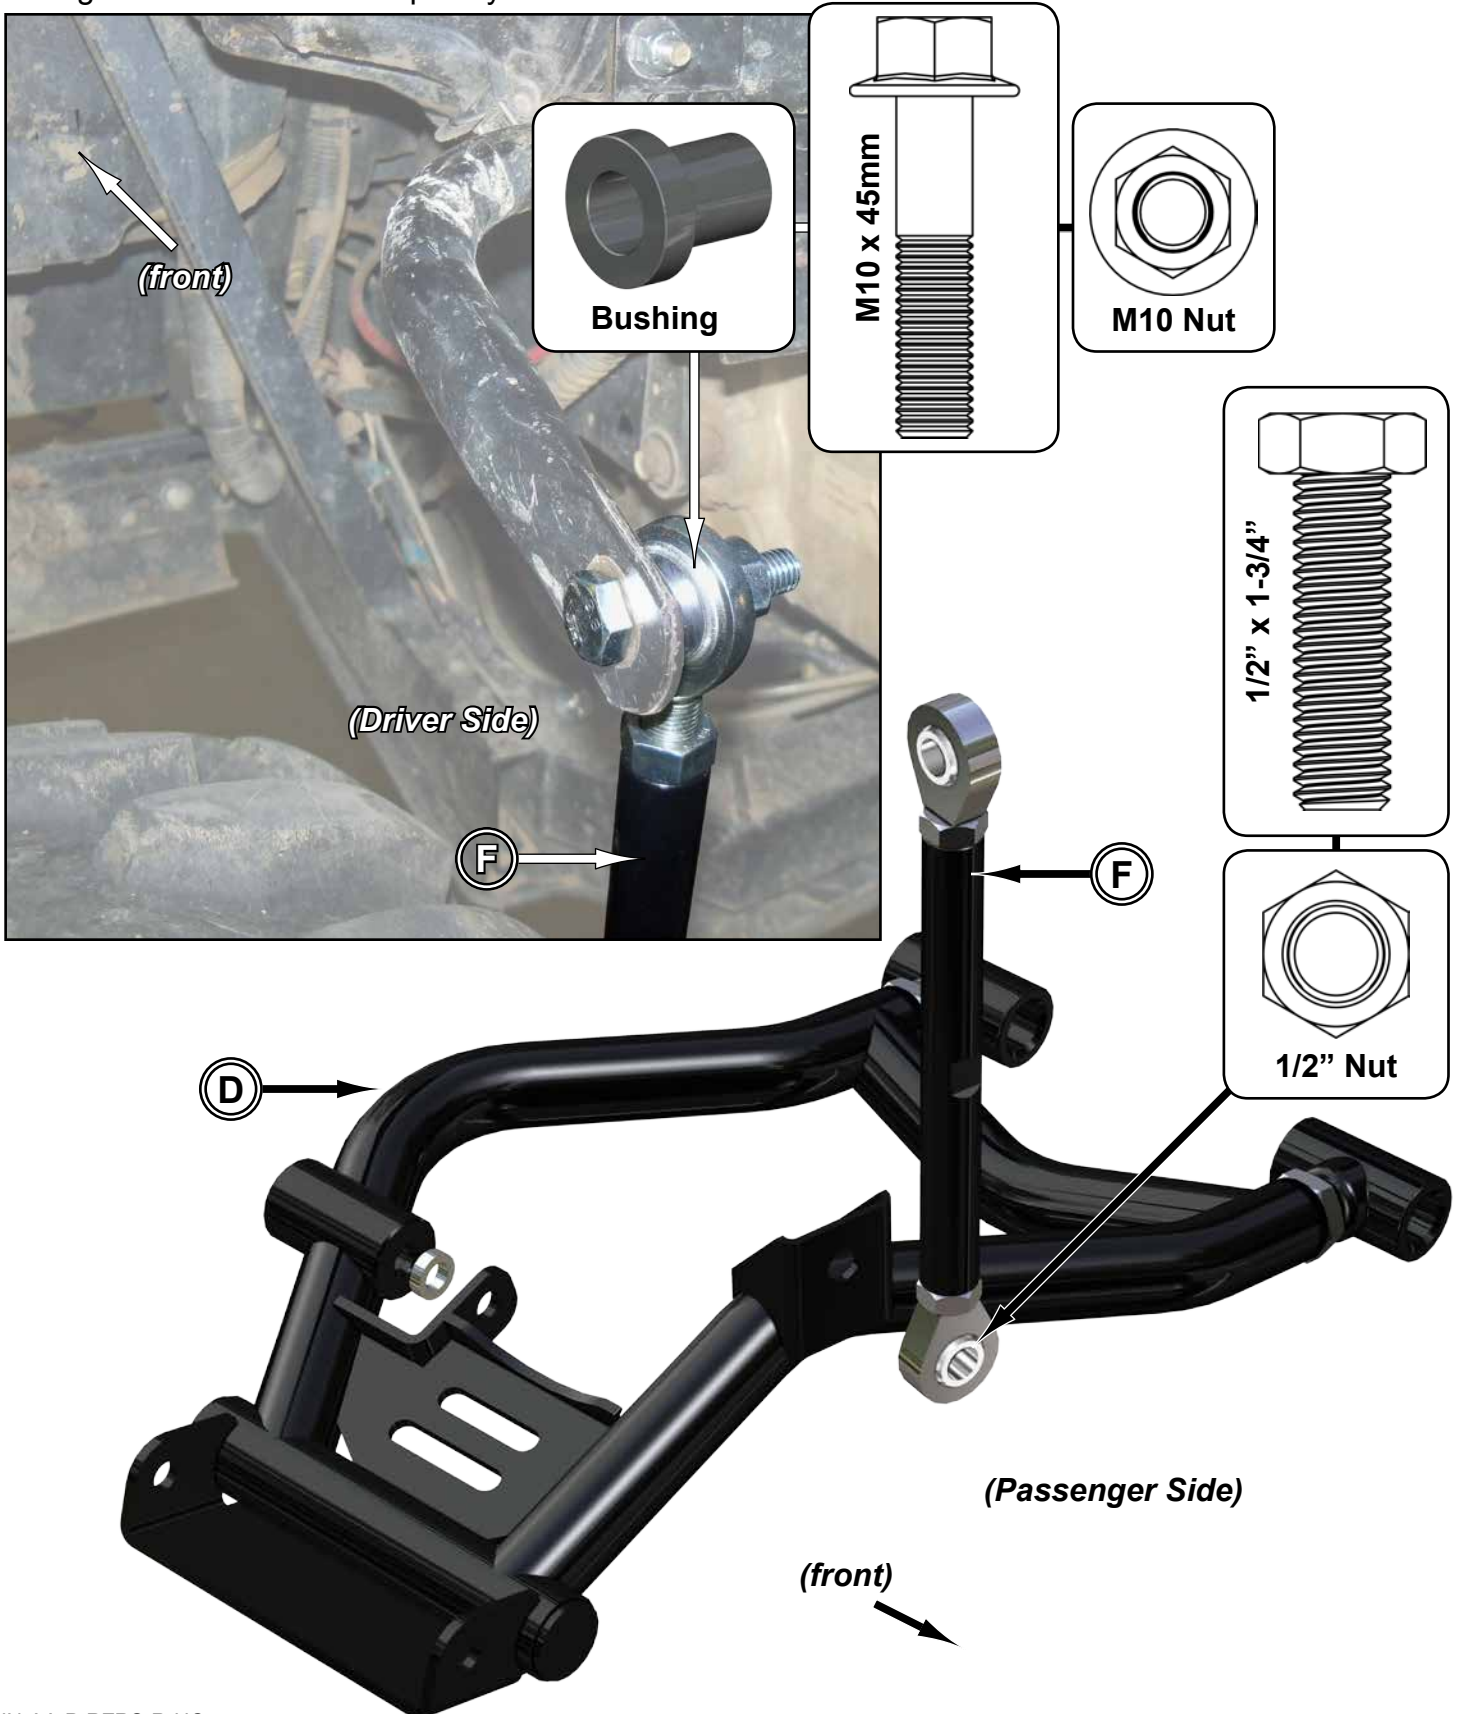

Fig. 3a
7. Install Sway Bar Links (F) to stock Sway Bar. See page 5.
8. Reinstall necessary components with stock hardware; tighten completely. See Fig. 3a.
9. Ensure no binding can occur, and secure Brake Lines with Brake Line Clips (E) and M5-.8 x 13mm Lg. PHMS. See Fig. 3a.